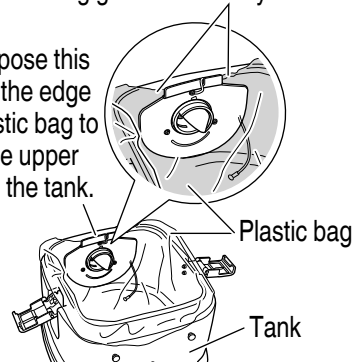

Fig. 13
- (2) Insert the plastic bag between the inside of the tank and the bag guide.
- Insert the bag first along the bottom of the bag guide and then on both sides. (see Fig. 13)
- (3) After spreading the plastic bag along the inside of the tank, draw the end of the plastic bag outside the tank. Following the directions on page 47 "Attaching the filters", insert the filter and the filter cage.
- The edge of the plastic bag on the air intake should not extend out of the top of the tank. (see Fig. 13)